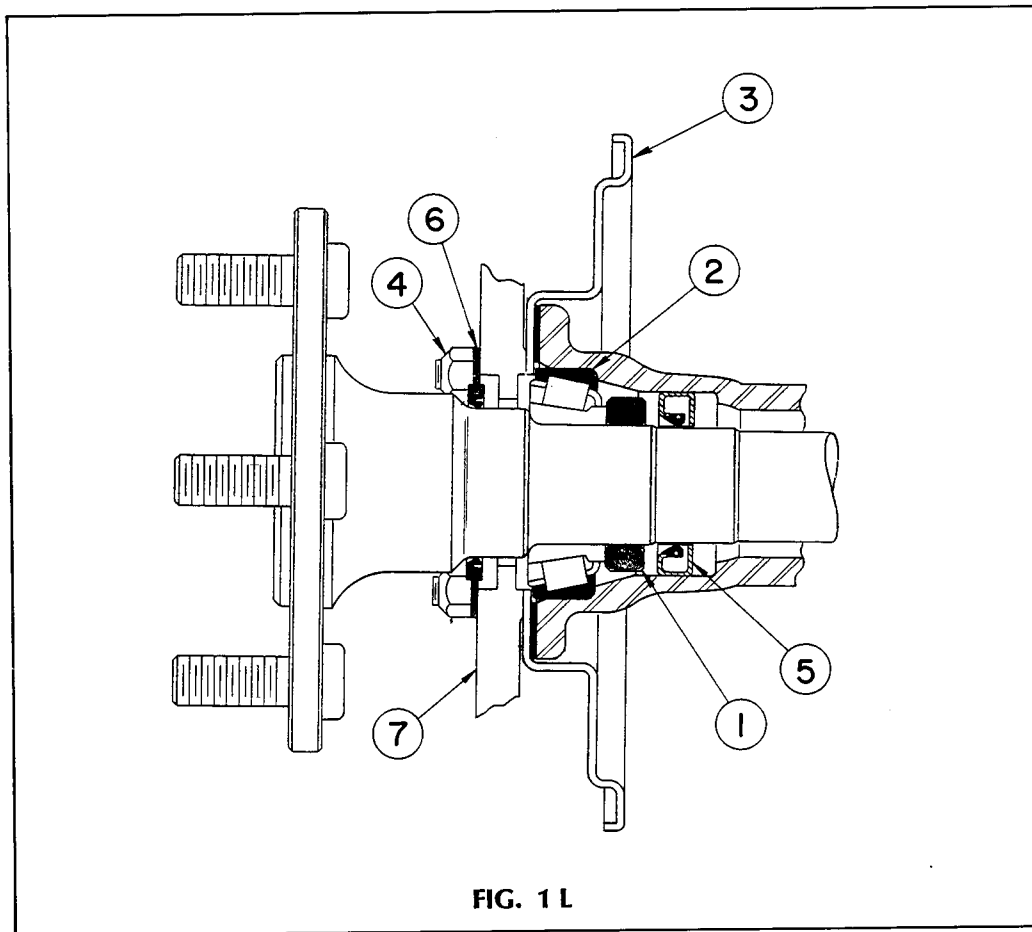
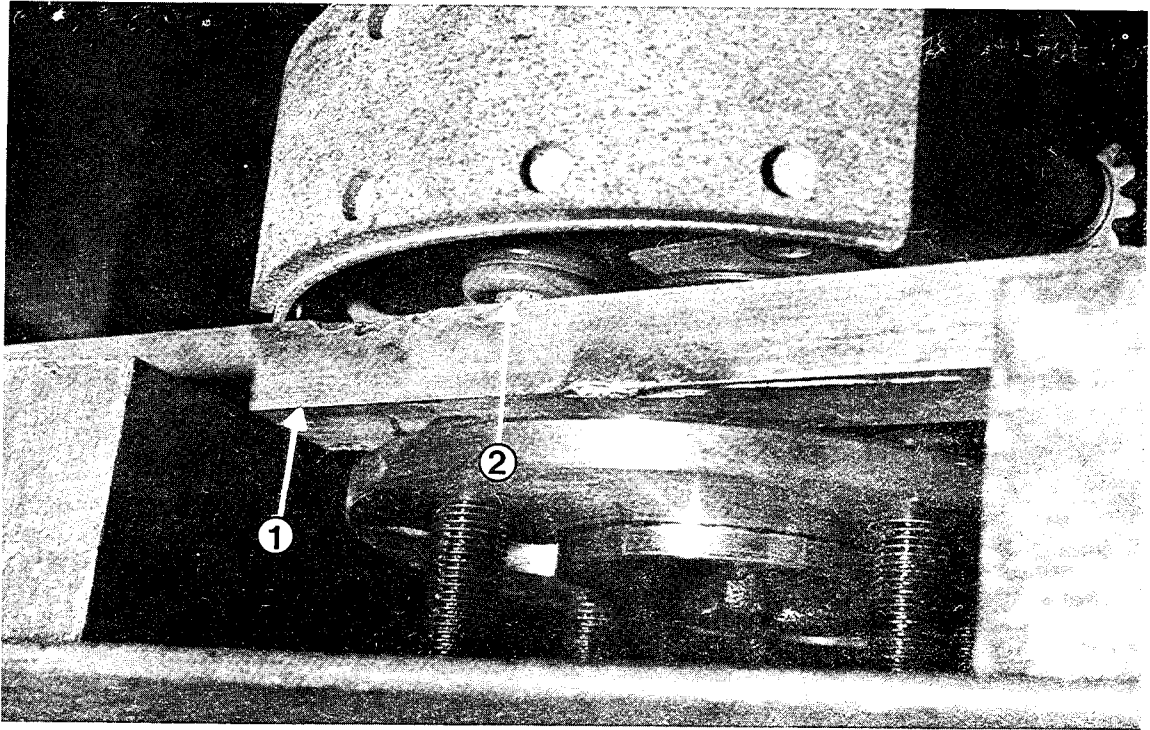
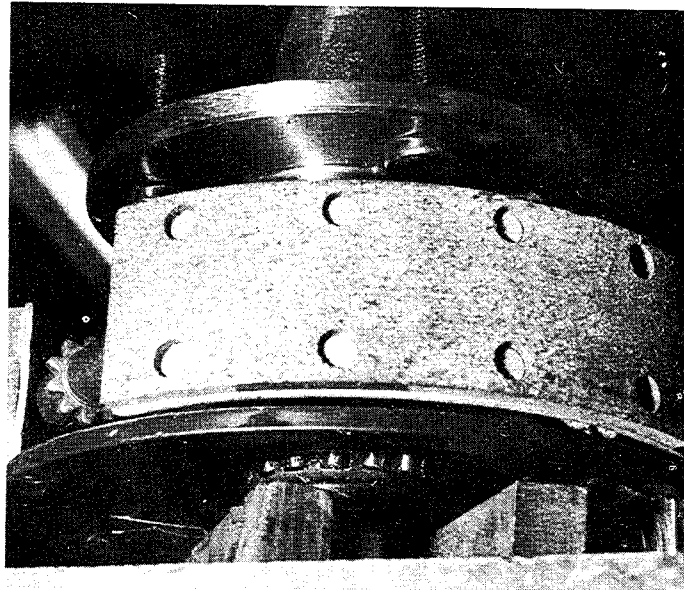

FIG. 1 L
FIG. 2 L
FIG. 3 L
#### Axle Shaft Removal (Fig. 1 L)
#### Removal of Unit Bearing from Axle Shaft (Fig. 1 L and Fig. 2 L)
Drill 1/4" (approx.) diameter hole in the outside of the retainer ring (1) to a depth approximately 3/4 of the thickness of the ring. **CAUTION!** Drilling completely through the ring could damage the shaft. (Fig. 1 L)
Support the axle and brake assembly in a press using two steel bars (1) placed under the brake casting bosses (2) as shown in Fig. 2 L. Two bars must be used to insure even load to both casting bosses. Slowly press shaft down until bearing is removed.
**ASSEMBLING AXLE SHAFT ASSEMBLY (Fig. 3 L)**
Inspect shaft for possible damage. Place grease seal (item 6, Fig. 1 L), brake assembly (item 7, Fig. 1 L), and new bearing (in that order) on axle shaft. Using the discarded retaining ring and two steel bars in an arbor press as shown in Fig. 3 L, press bearing onto the shaft until firmly seated against shaft shoulder. Again using the discarded retaining ring and two steel bars in the arbor press, press on a new retainer ring until seated firmly against bearing.
The axle shaft oil seal (5) (Fig. 1 L) is fitted in the axle housing behind the wheel bearing to prevent differential oil leakage through bearings. It is good practice to replace this seal when axle shaft is removed for bearing service. To replace seal, pry old seal out with a screw driver or pull with seal puller. Install new seal with suitable arbor or by tapping lightly around outer edge with a drift punch. **Note:** Seal must be installed with lip edge to the inside toward differential.